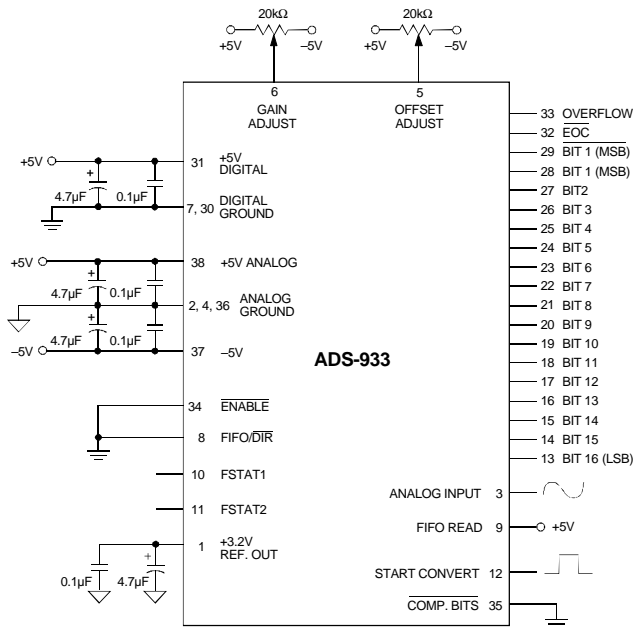

Figure 2. Connection Diagram
2. The ADS-933 achieves its specified accuracies without the need for external calibration. If required, the device's small initial offset and gain errors can be reduced to zero using the adjustment circuitry shown in Figure 2. When using this circuitry, or any similar offset and gain calibration hardware, make adjustments following warm-up. To avoid interaction, always adjust offset before gain. Tie pins 5 and 6 to ANALOG GROUND (pin 4) if not using offset and gain adjust circuits.
Connect the converter per Figure 2. Any offset/gain calibration procedures should not be implemented until the device is fully warmed up. To avoid interaction, adjust offset before gain. The ranges of adjustment for the circuits in Figure 2 are guaranteed to compensate for the ADS-933's initial accuracy errors and may not be able to compensate for additional system errors.